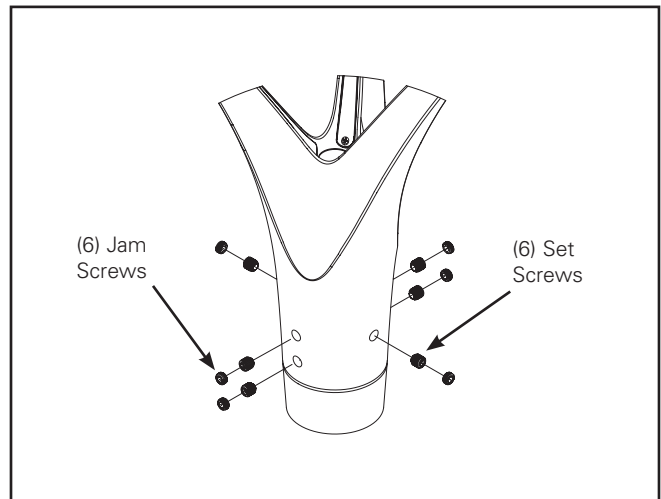

Figure 4.
6. Install six 3/8-24 x .375" set screws and tighten to 160 in-lbs. (Figure 4.)
7. Install six 3/8-24 x .1875" jam screws and tighten to 160 in-lbs. (Figure 4.)